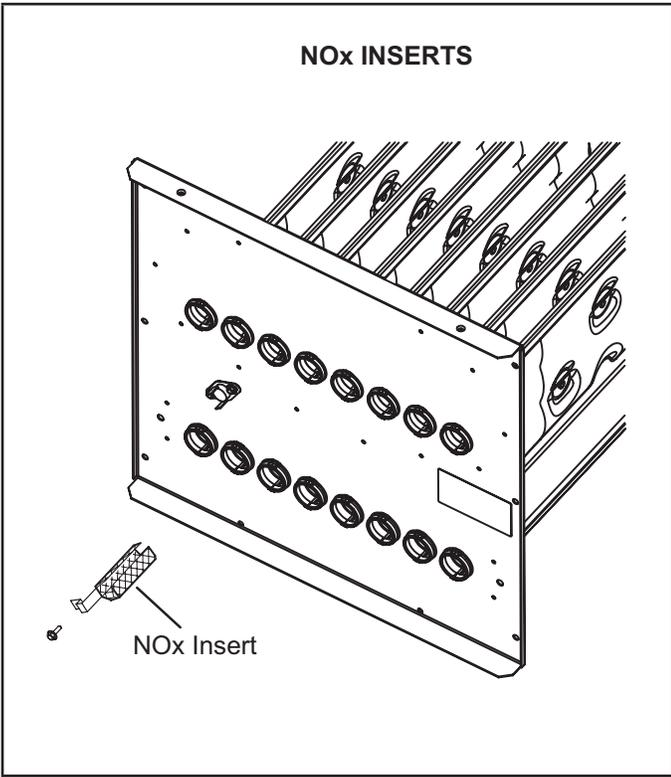

FIGURE 25
- 8 - **NOx units only** - Remove screw securing NOx insert. Remove NOx insert. FIGURE 25.